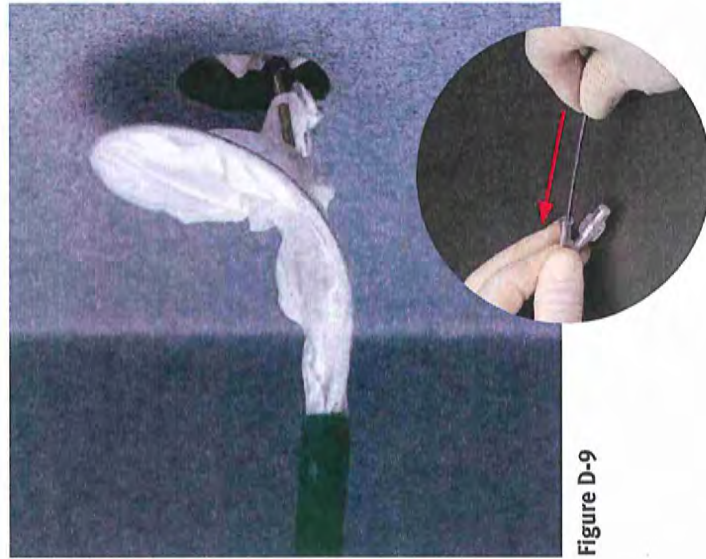

Figure D-9
- Push the Gray Control Catheter smoothly with the right hand to form the right atrial disc (Fig. D-9).